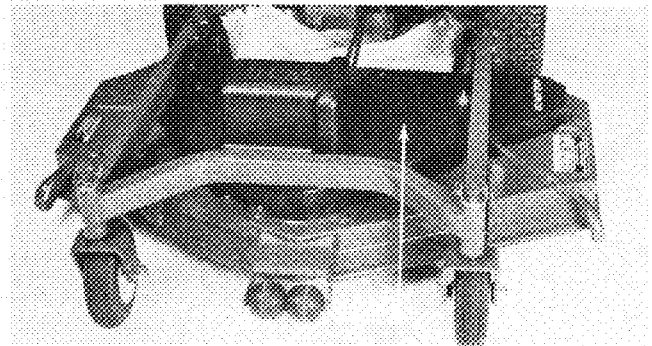

Figure 3
1. Unhook latches securing center deck cover to housing, and remove cover to expose gear box pulley (Fig. 3).